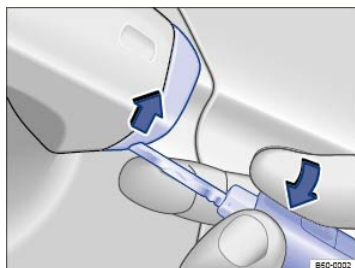

Fig. 182 Door handle on driver door: Concealed lock cylinder.
- Insert the key bit from below into the opening of the cover cap on the driver door ⇒ Fig. 182 (arrow) and lift the cover cap off. Grasping the door handle and pulling slightly makes it easier to remove the cap.